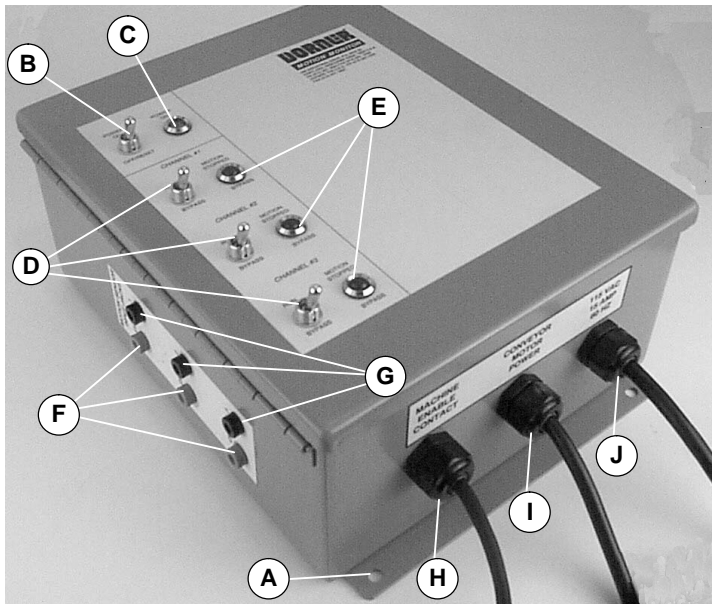

Figure 1
The Dorner motion monitor (Figure 1) is designed to sense conveyor belt movement on Dorner 2100, 4100 or 6100 Series conveyors. If no movement is detected, the monitor will stop
Select the desired location and attach the motion monitor enclosure using the four (4) 0.31" (8 mm) diameter mounting holes (A of Figure 1) and your own attaching hardware.
2. Place the toggle switch (D of Figure 1) into the "BYPASS" position for any channel which does not have an input sensor connected to it.
4. Plug in the monitor input power cord (J of Figure 1)
5. Plug in the conveyor to motor power cord (I).
6. Turn on the main power switch and observe that the green-colored indicator is ON. In approximately 5 seconds, the conveyor will start and the first pulse will shut off the red channel indicator light (E).
7. Slowly rotate timer module dial (K of Figure 2) counter-clockwise until the conveyor stops and the MOTION STOPPED/BYPASS, red-colored indicator (E of Figure 1) turns ON. At this point, the timer is adjusted for its "minimum" setting.
9. Switch the Main Power ON-OFF/RESET toggle switch (B of Figure 1) to OFF/RESET and then to ON. After approximately 5 seconds, the conveyor will re-start.
The motion monitor is equipped with a 15-ft (4.6 mm) cord (H of Figure 1) which is pre-wired to the "machine enable contact". Wire the cord to your dry contact input: